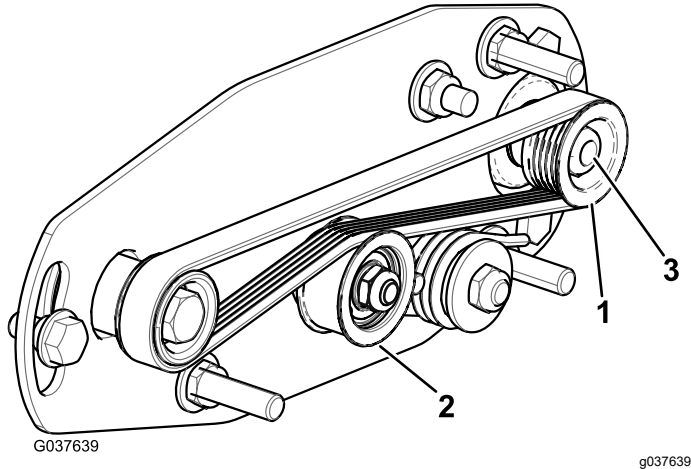
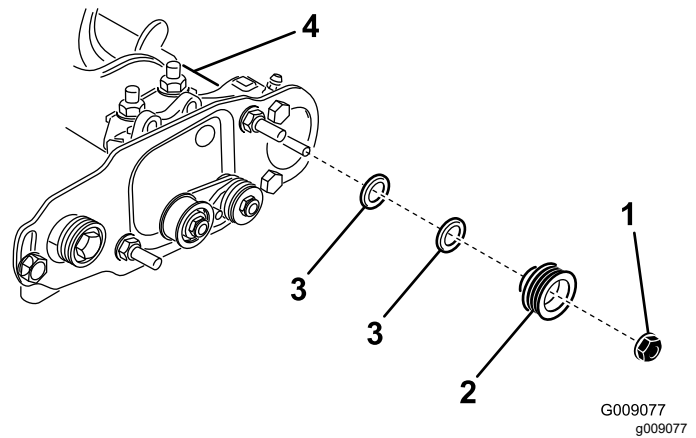

Figure 24
Figure 25
1. The driven pulley (at the roller-brush shaft) can move in or out (Figure 24).
2. While rotating the reel, which rotates the drive pulley, pry the belt off the drive pulley (Figure 24).
3. Remove the locknut securing the driven pulley to the brush shaft (Figure 24 or Figure 25).
4. Remove the driven pulley from the shaft (Figure 25).
5. If the pulley needs to move out, add a 0.8 mm (0.032 inch) thick washer (Figure 25).
6. Install the pulley as shown in Figure 25.